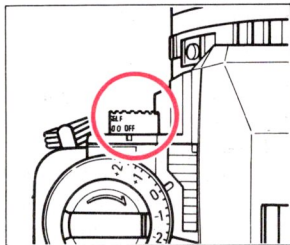

Fig. 35
4. After shooting is completed, turn the Self/Interval Timer OFF. (Fig. 35)